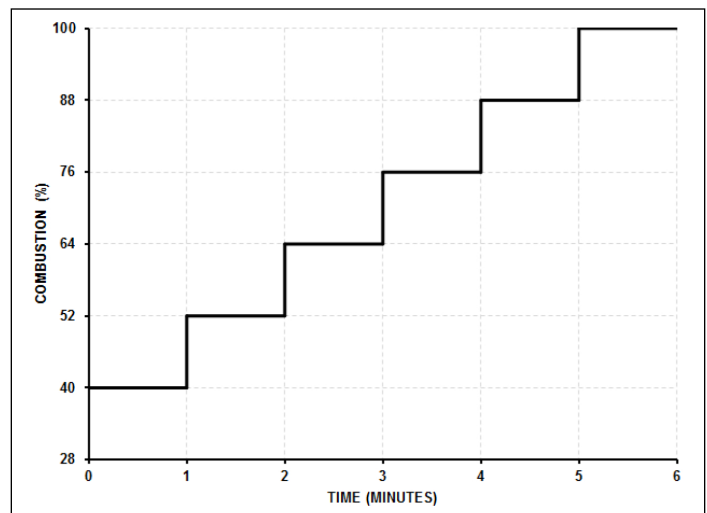

Figure 58 - Step Modulation
When the Step Modulation on/off parameter is active, step modulation limits the boiler firing rate when a heating cycle starts. There are six (6) limiting steps used to limit temperature overshoot and short cycles. See Figure 58. This feature can be turned on or off depending on the installation. This parameter can be changed by the installer by accessing parameter 37:CM or 38:dM. The control range of this parameter is OFF or ON. The default value is OFF. The percentage of each step can be decreased as low as 50% by decreasing the overall capacity of the boiler in the Installer Menu changing parameters 18:cb or 19:db.